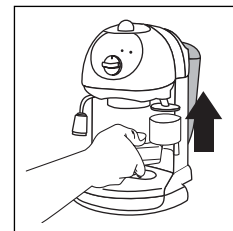

fig. 11
2. Distribute the ground coffee evenly and press it lightly with the coffee tamper (Fig. 11).